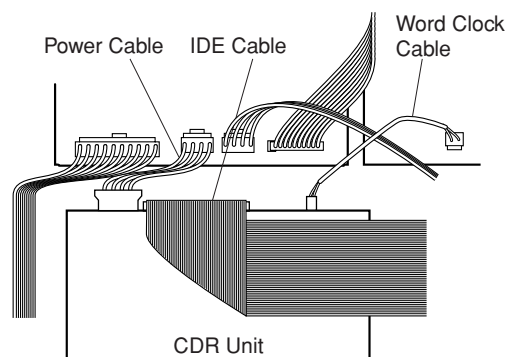

Fig. 3
- Disconnect the power cable, IDE cable and word clock cable from the CDR unit. (Fig. 3)
- Connect the power cable, IDE cable and word clock cable to the CDR unit. (Fig. 3)
- 2) Disconnect the IDE cable connected to the CD-R/W drive. (Refer to the figure 3 in p.6.)
When the word clock cable is disconnected, this equipment will fail to operate properly. (Refer to the figure 3 in p.6.)